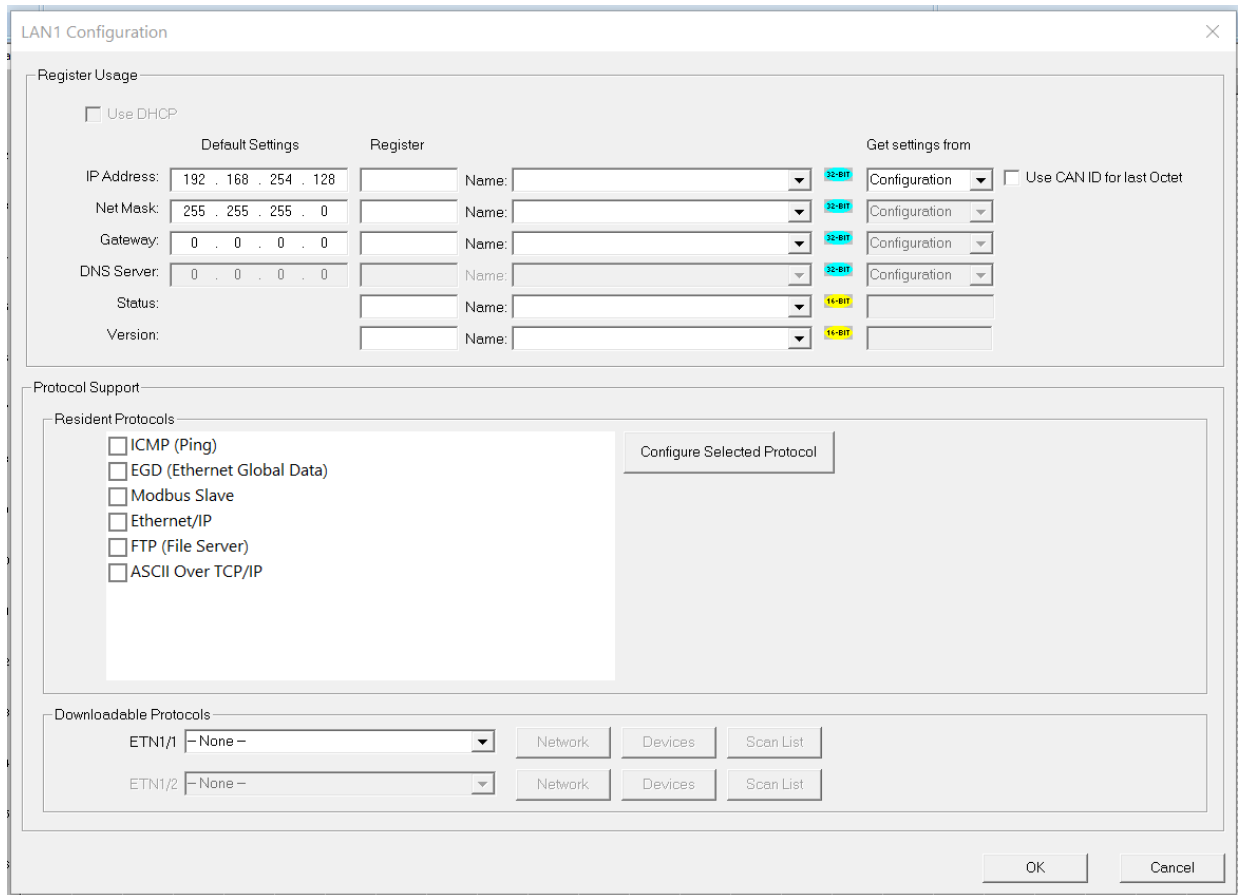

Figure 12.2 - LAN1 (Ethernet) Module Configuration Error! Bookmark not defined.
3. Click the **Config** button to the right of LAN1, revealing the Ethernet Module Configuration dialog as shown in Figure 12.2.